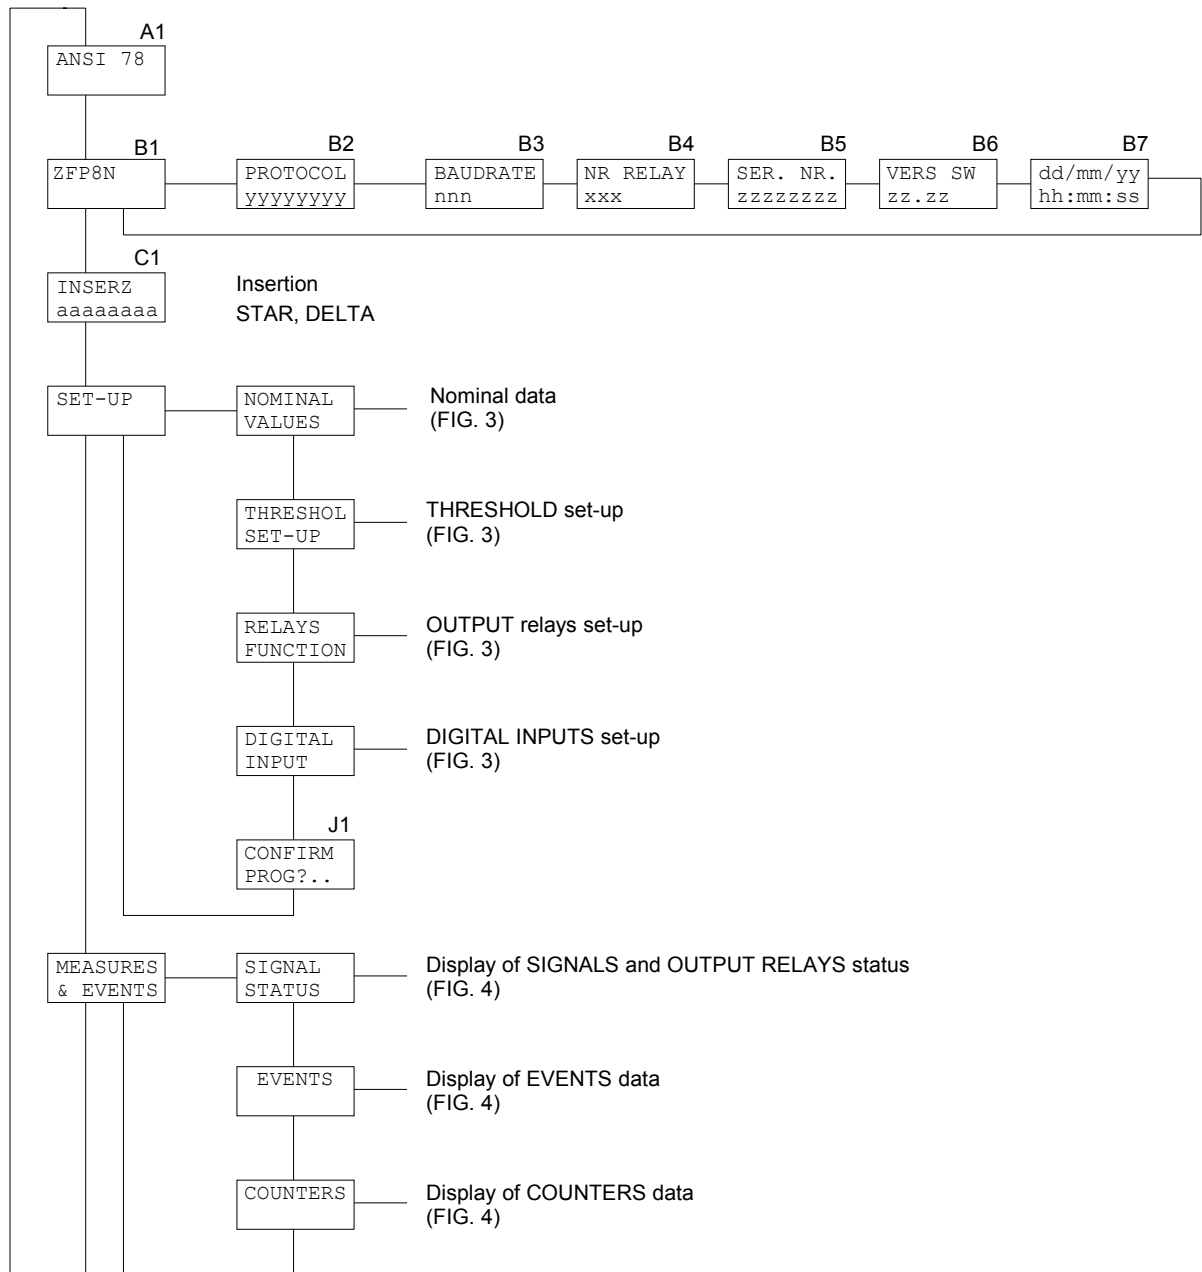

Figure 2
The programmable parameters are showed in figures 2, 3 and 4 at the following references:
The contents and the structure of the displayed messages are shown in figures 2, 3 and 4; the references A1, B1, B2 etc. identify specific displayed messages in the figures.
A1 - STANDARD DISPLAY (figure 2)
5.3 Address and time (figure 2)
5.4 Protection insertion (figure 2)**C1 - INSERTION SELECTION (programmable)**